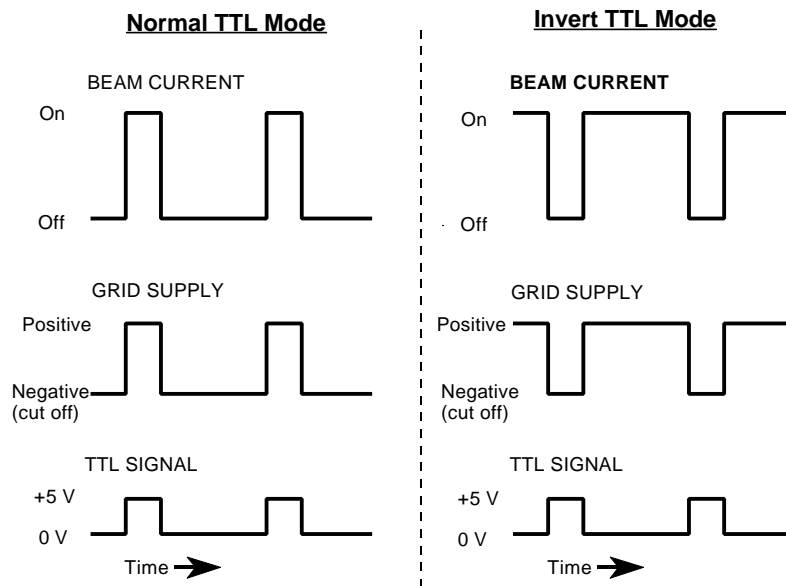

Figure 4.5.4 Normal and inverted pulsing TTL Signal, alternating Grid Supplies, and Beam Current Response
- a. Set the TTL switch to either **NORMAL** or the **INVERT** position. The **INVERT/NORMAL** switch reverses the TTL logic and so provides a method of inverting the pulse output. (See Figure 4.5.4, below)